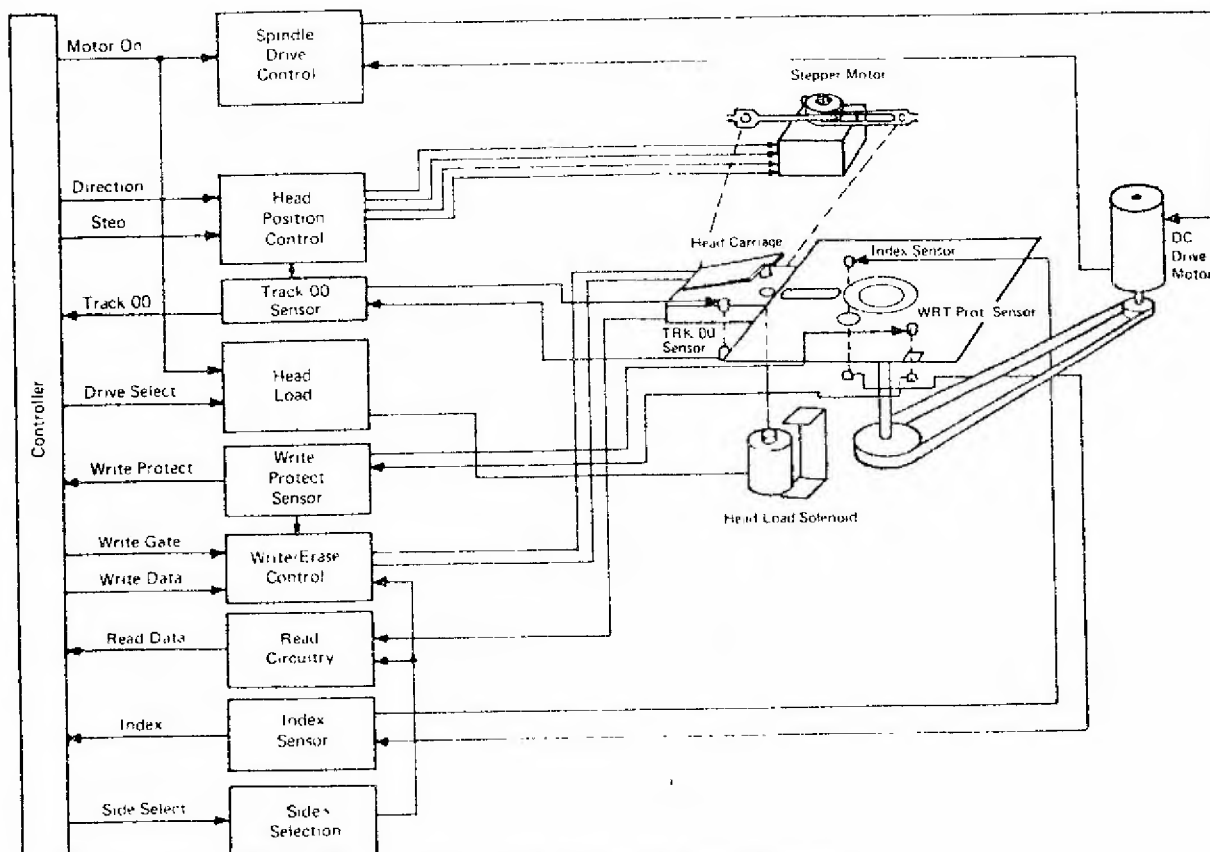

Figure 5-1 Functional Block Diagram
5.2 Mechanical and electrical. Figure 5-1 shows a functional block diagram of the mechanical and electrical groups included in the disk drive, as follows: